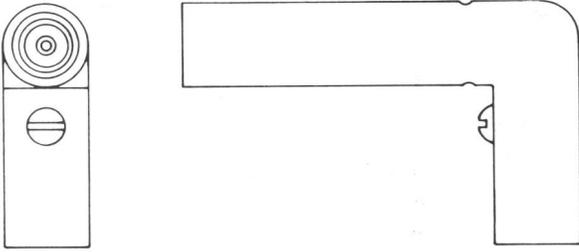

Fig. 25—620A Jack
2.19 **620A:** The 620A right angle coaxial-type jack (Fig. 25) is designed to be used with the 439A, 440A, and similar coaxial plugs. This jack is also designed to accept a 730A cable and is used in the Zero Loss Basic Mastergroup Trunk Panel.